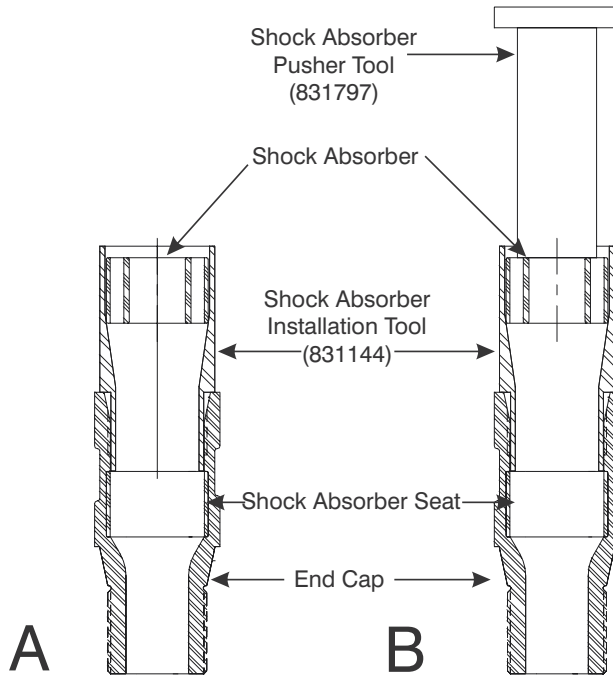

Figure 9-6. Compress Shock Absorber in Installation Tool 831144.
3. Lubricate the outer surface of the Shock Absorber (9). Place the Shock Absorber into the Installation Tool as shown in Figure 9-6-A.
4. Center the Shock Absorber Pusher Tool P/N 831797 over the Shock Absorber as shown in Figure 9-6-A.